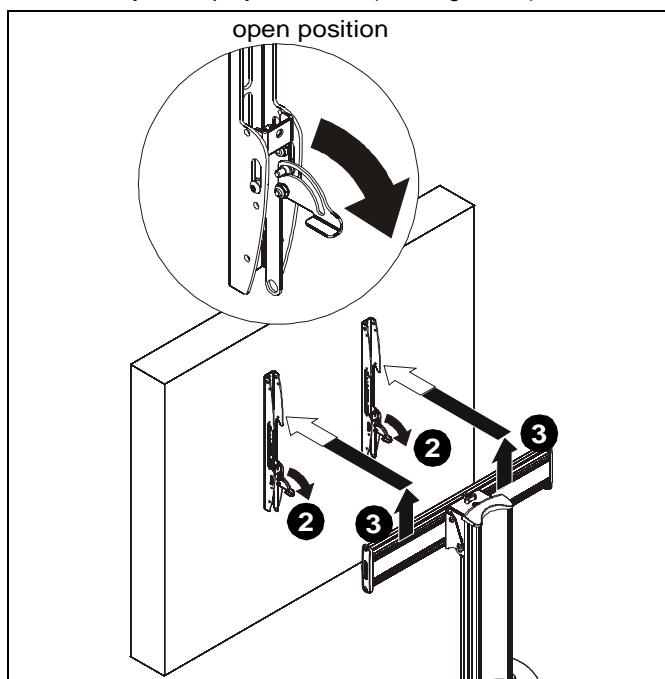

Figure 21
2. Position latches on interface uprights so that they are in the "open" position. (See Figure 21)
3. Carefully lift display from cart. (See Figure 21)